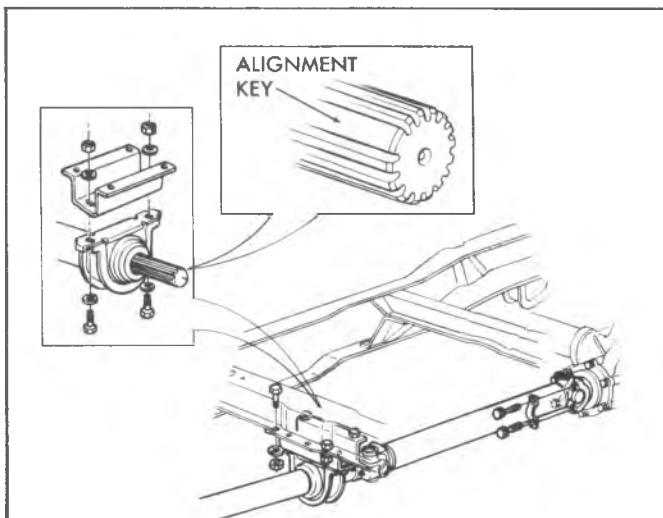

Fig. 28—C-K Propeller Shaft Alignment Key
2. For C-K models with two-piece propeller shafts, phasing is no longer required due to the alignment key, shown in figure 28.